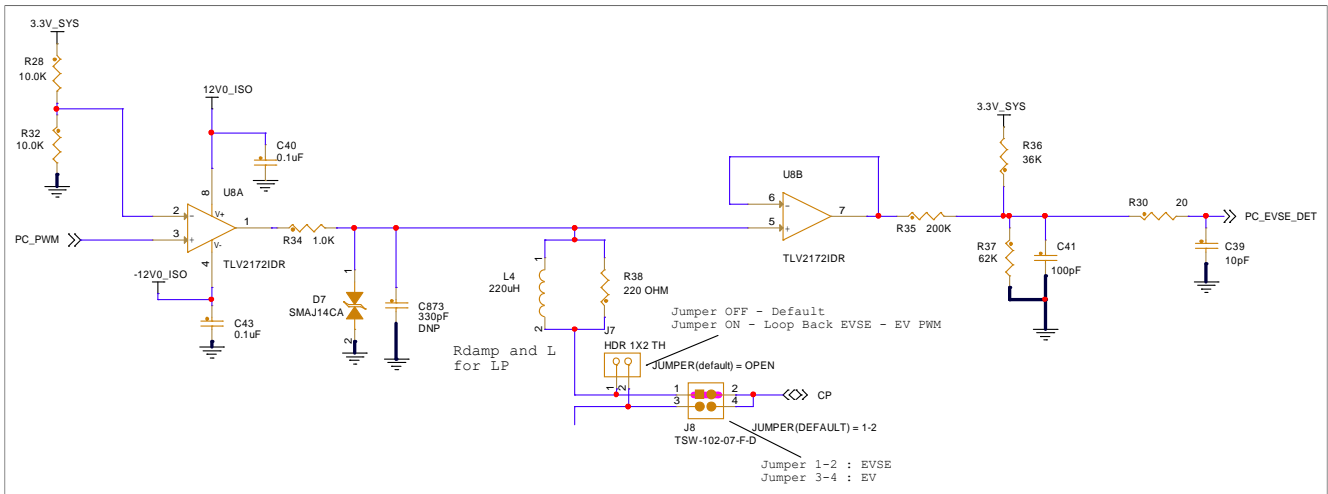

Figure 21. EVSE side circuit of control pilot PWM
The J1772 PWM circuit in EVSE-SIG-BRD2X is configurable to the electric vehicle supply equipment (EVSE) side or electric vehicle (EV) side interface using board jumper settings. The implementation is shown in Figure 21.
The control pilot EVSE circuit shown in Figure 21 amplifies the PC_PWM signal, which is a 1 kHz PWM signal generated using the LPC5536/LPC55S36 MCU. U8 is a high-speed rail-to-rail op-amp with fast rise time to meet the requirements of EVSE standards. The op-amp U8A is powered with the +12 V and -12 V supply rails and it produces the ±12 V PWM at its output. The output is passed through a low-pass-filter (L4 and R38) to filter out the high-frequency signal coupling occurred due to the high-level signaling produced by the HPGP CG5317 analog circuit. Therefore, the LPC5536/LPC55S36 MCU controls the levels of the PWM signal (CP) as follows: